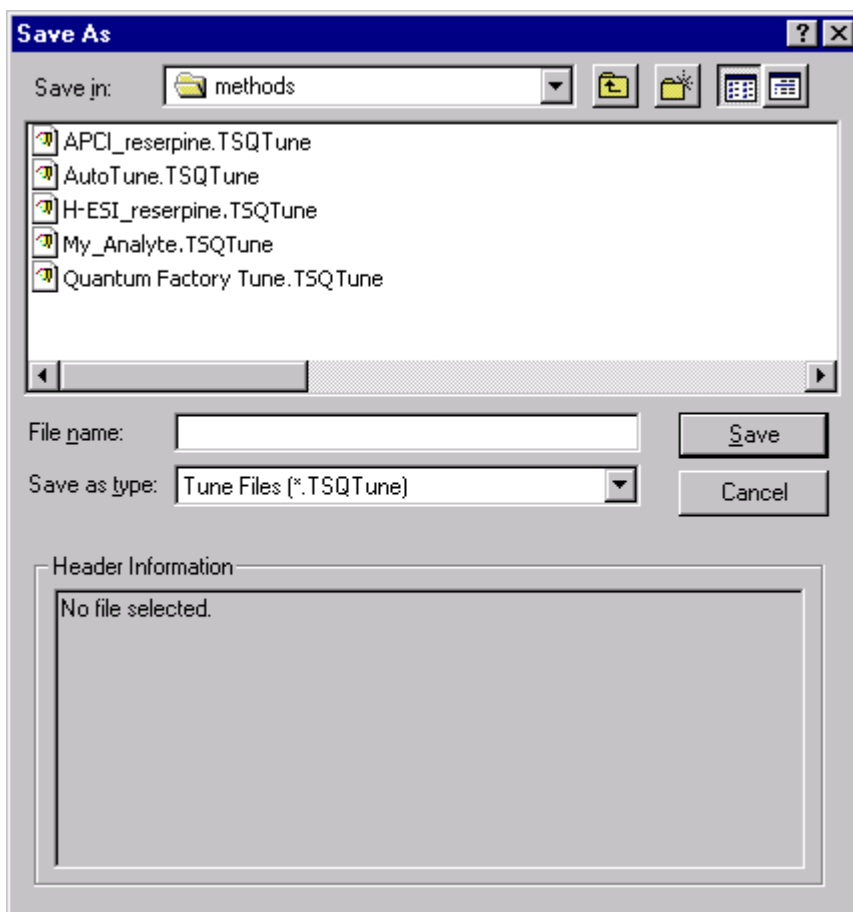

Figure 4-13. Tune Method Save As dialog box
- a. Click on **Save Tune As** to open the Save As dialog box. See Figure 4-13.